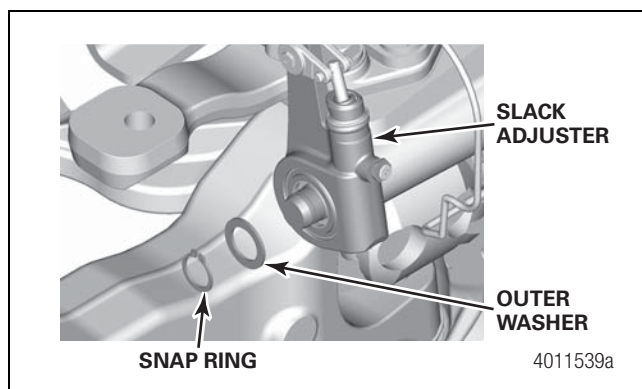

Figure 4.14
1. Remove the slack adjuster retaining ring at the adjuster end of the camshaft. Figure 4.14.